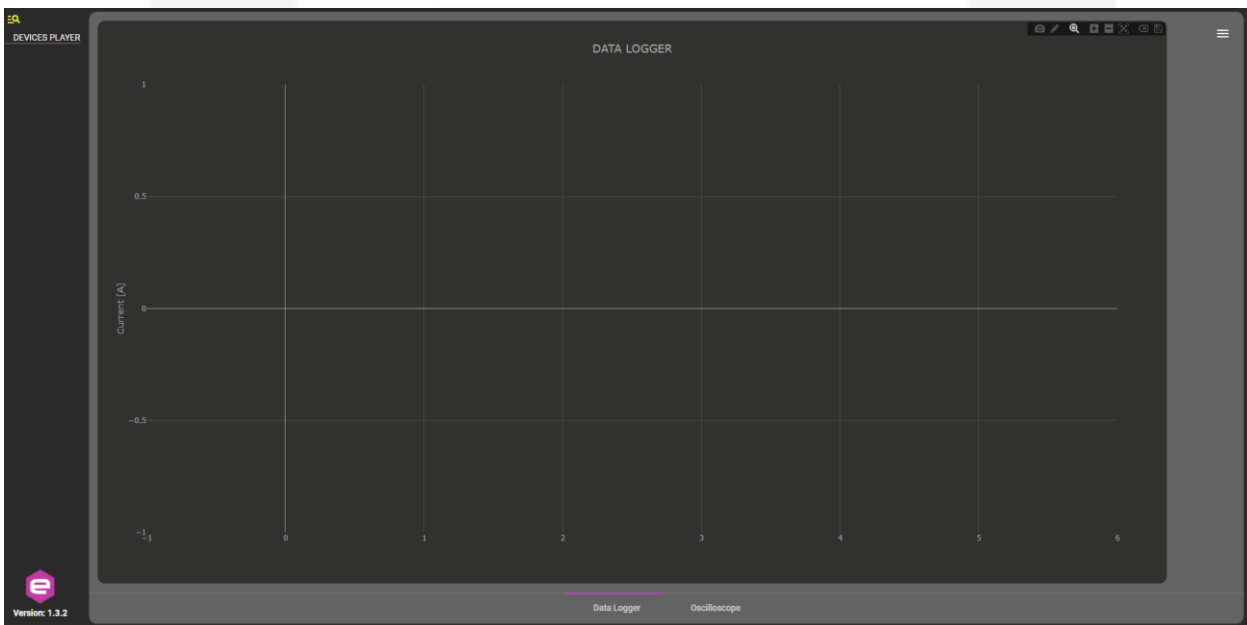
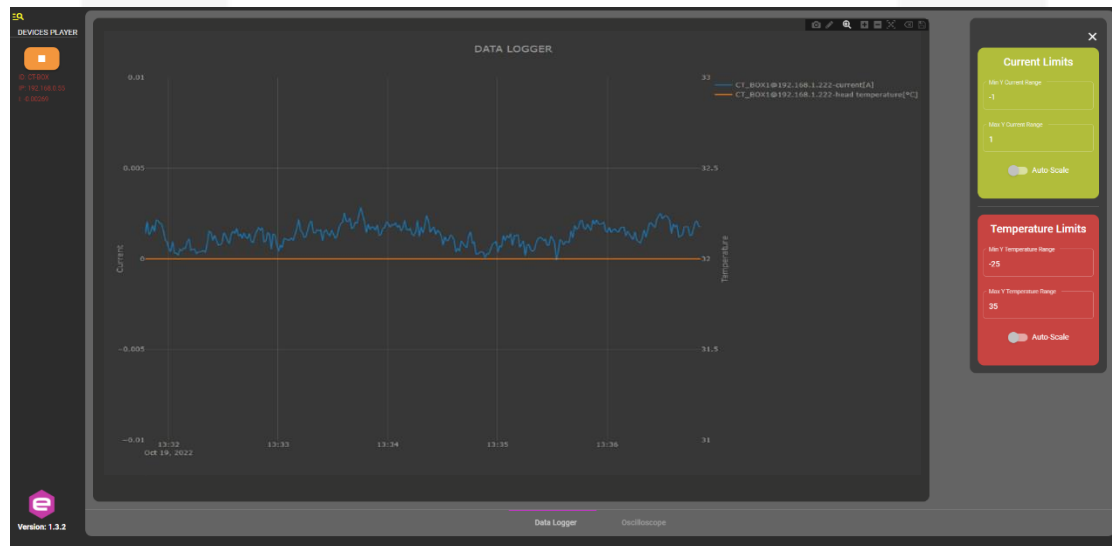

Figure 2.1: CT-BOX Viewer's Main window.
Figure 2.14: Example of acquisition in Data-Logger mode
In the CT-BOX Viewer main window (**Figure 2.1**), it is possible to manage one (or more) CT-BOX device(s) by means of the yellow hamburger menu at the left upper corner. At the bottom of the window instead, you can select the CT-BOX viewer mode, namely Data-Logger (set by default at the opening) or Oscilloscope. The hamburger menu at the right-upper side gives access to either the Current and Temperature Limits in Data-Logger mode (see **Sec. 2.3.1**), or the Channel and Trigger options when in Oscilloscope Mode (see **Sec. 2.3.2**). Furthermore, the horizontal stripe menu (at the right upper side of the viewer) allows an easy access to the main visualization options (e.g. zoom, autoscale, pan) and saving options (e.g. save a screenshot of the viewer as png, export a CSV) as well.
N.B. Once back on the main window by clicking on an empty space (see **Figure 2.1**), the highlighted mode at the bottom of the viewer must agree with the one just selected in the *Acquisition* tab of the *Settings*.
Once at least one unit has been selected, from the Viewer Main Window (see **Figure 2.1**) the user must to choose either Data-Logger or Oscilloscope viewer mode ensuring that it agrees with the one selected in the **ACQUISITION** tab in the *Settings* menu (**Sec. 2.2.1**).
When the CT-BOX unit is connected and configured as Data-Logger mode, the plotter on the Viewer Main Window shows the acquired current (referred to the left y-axis) and the temperatures (referred to the right y-axis) depending on the previous configuration. As already mentioned in **Sec. 2.1**, by clicking on the right hamburger icon, a column panel on the right opens: the user can easily set both the *current limits* (upper green box) and *temperature limits* (lower red box) used in the plot or use the auto-scale function (see **Figure 2.14**). To quickly apply the auto-scale function, double-click on the plotter (alternatively use the horizontal stripe menu, **Figure 2.1**); to come back to the previous view, double-click again on the plotter.